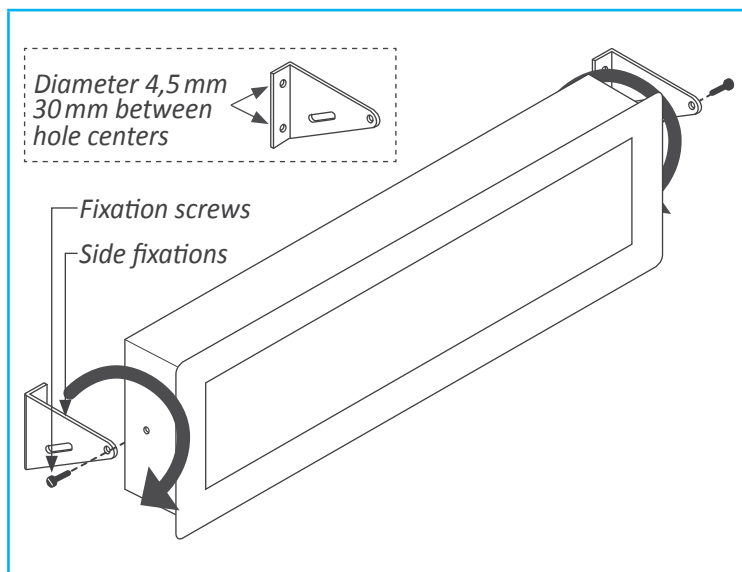

Figure 12 - Wall mount
- Wall mount. Mount the side fixations against the wall, as shown (see Figure 12). Each fixation has 2 holes with 4.5 mm diameter and a separation between hole centers of 30 mm. Once the side fixations are secured against the wall, place the instrument and press the fixation screws slightly. Tilt the instrument to the desired viewing angle and firmly screw the fixation screws.